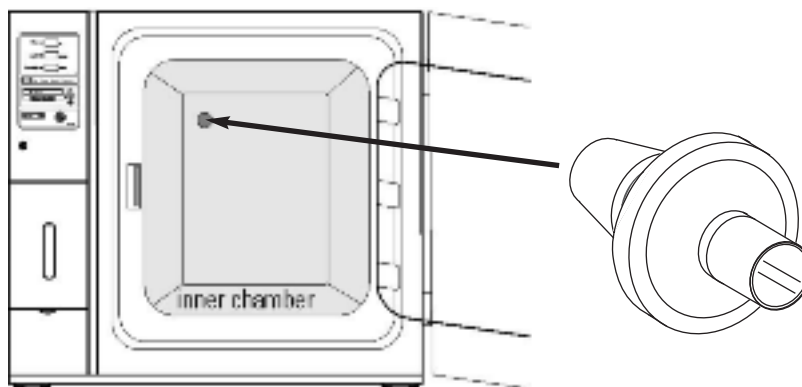

Figure 1-10. Access Port Filter Installation
2. Install the the filter/stopper assembly into the opening inside the chamber. See Figure 1-10.